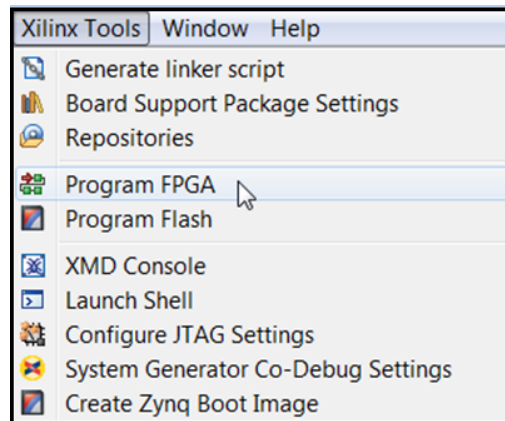

Figure 37: Program FPGA
1. Download the bitstream into the FPGA by selecting Xilinx **Tools > Program FPGA** (FIGURE 37).